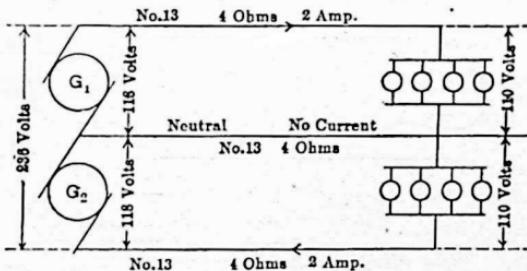

FIG. 93. Three-wire system; balanced. Neutral carries no current.
The generator also has to have a special device to which this third wire is attached. It is much simpler, however, to consider the generator as divided into two 110-volt generators in series as in Fig. 93, with the neutral coming to the junction of the two.
49. Balanced and Unbalanced Three-Wire System. When there are the same number of lamps burning on each side of the neutral, as in Fig. 93, the neutral carries no current, and the system is said to be *balanced*. It is only when the system is *unbalanced* that the neutral is of use
The lamps of both groups were made to run on 110 volts as in Fig. 93, and would probably be ruined by 122 volts. We can say, then, that the result of extreme unbalancing is to so greatly disturb the voltage distribution, that appliances built for special voltages would not operate satisfactorily on the system.
Prob. 104. Find the voltage distribution if the neutral in Fig. 93 broke.